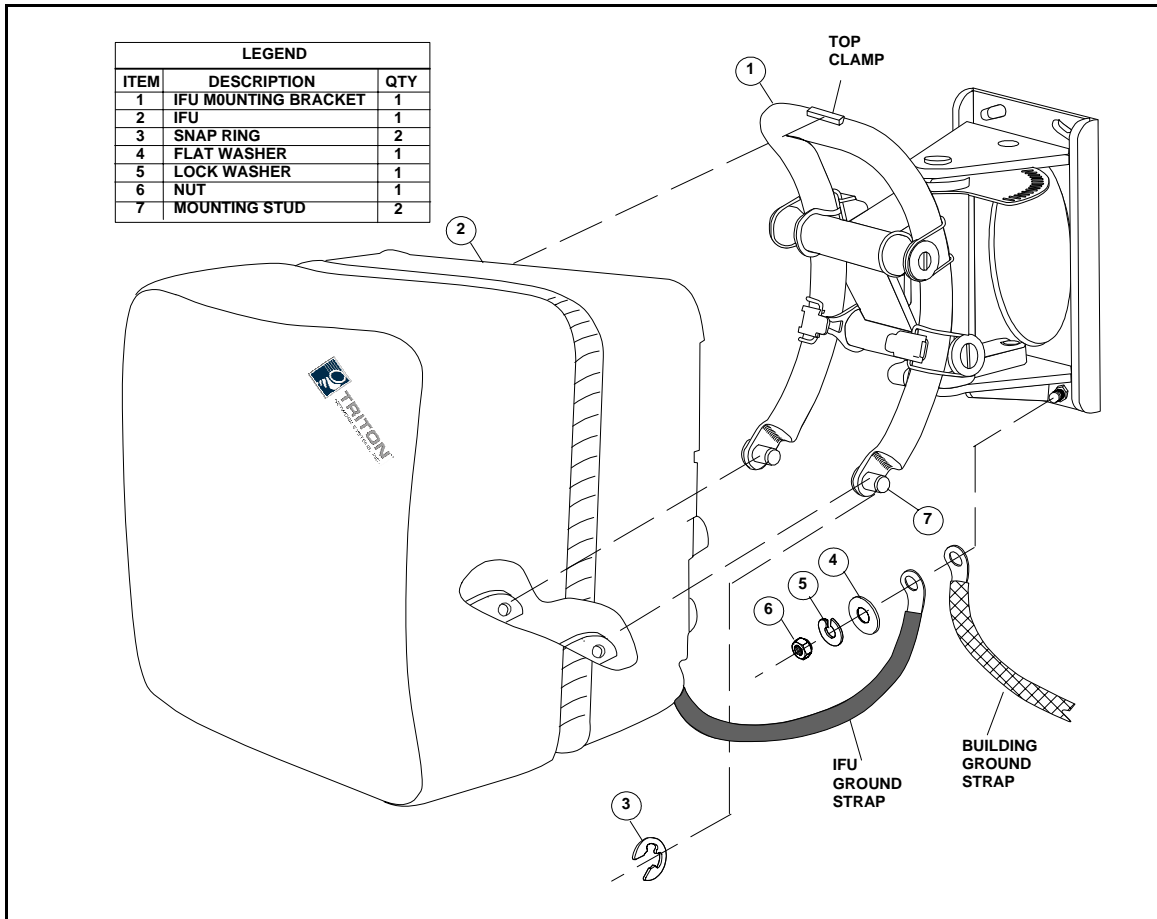

Figure 5-2. IFU Removal
- 1 Remove the nut (6), lock washer (5), flat washer (4), and earth ground strap from the bottom bolt of the mounting bracket (1) (see Figure 5-2).
- 2 Remove two snap rings (3) from mounting studs (7) as shown in Figure 5-2.
- 3 Disengage the top IFU clamp and remove the IFU (2) from the mounting bracket (1) as shown in Figure 5-2.